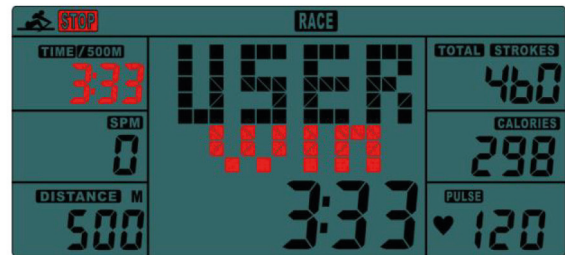

Fig. 7
*The computer will stop when either user or computer has reached the race distance that was set. The display shows "PC WIN" or "USER WIN" (Fig.7).*